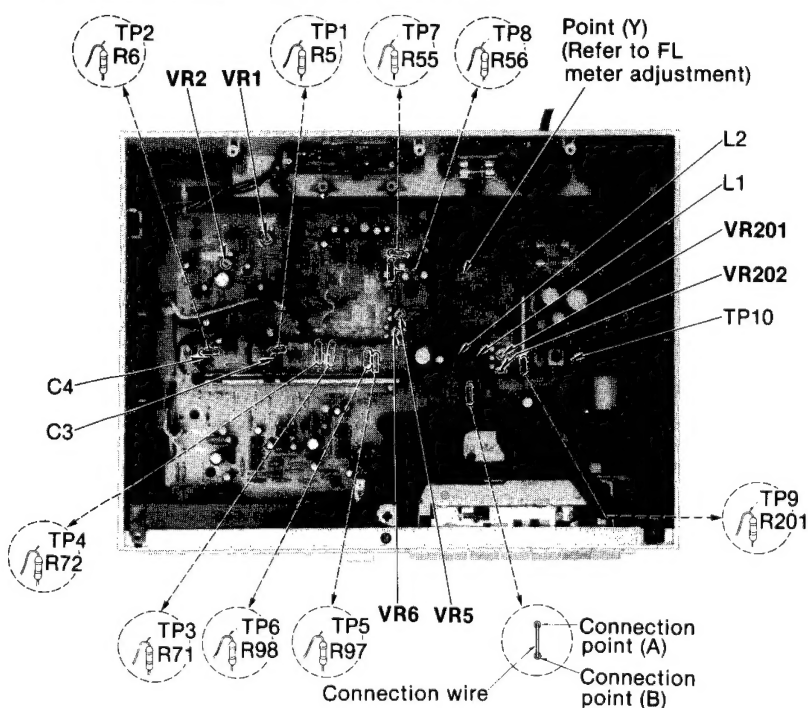

Fig. 2
<p>⑤ Playback gain</p> <p>Condition:</p> <ul style="list-style-type: none">• Playback mode• Normal tape mode <p>Equipment:</p> <ul style="list-style-type: none">• VTVM • Oscilloscope• Test tape... QZZCFM	<ol style="list-style-type: none">1. Test equipment connection is shown in fig. 4.2. Playback standard recording level portion on test tape (QZZCFM 315Hz), and using VTVM measure the output level at LINE OUT.3. Make measurement for both channels <div>Standard value: 0.4V ± 2dB [around 0.42V: at test points TP3 (L-CH) and TP4 (R-CH)]</div> <p>Adjustment</p> <ol style="list-style-type: none">1. If measured value is not within standard, adjust VR1 (L-CH), VR2 (R-CH) (See fig. 2 on page 4).2. After adjustment, check "Playback frequency response" again.
<p>① Overall gain</p> <p>Condition:</p> <ul style="list-style-type: none"> • Record/playback mode • Normal tape mode • Input level controls ... MAX • Standard input level; MIC -72 ± 3.5 dB LINE IN ... -24 ± 3.5 dB <p>Equipment:</p> <ul style="list-style-type: none"> • VTVM • AF oscillator • ATT • Oscilloscope • Resistor (600Ω) • Test tape (reference blank tape) ... QZZCRA for Normal 	<ol style="list-style-type: none"> 1. Test equipment connection is shown in fig. 21. 2. Place the UNIT into normal tape mode and load the test tape (QZZCRA). 3. Place UNIT into record mode. 4. Supply 1 kHz signal (-24 dB) from AF oscillator, through ATT to LINE IN. 5. Adjust ATT until monitor level at LINE OUT becomes 0.4V. 6. Playback recorded tape, and make sure the value at LINE OUT on VTVM becomes 0.4V. 7. If measured value is not 0.4V, adjust VR5 (L-CH), VR6 (R-CH) (See fig. 2 on page 4). 8. Repeat from step (2). <div data-bbox="1093 1265 1460 1489"> </div> <p>Fig. 21</p>